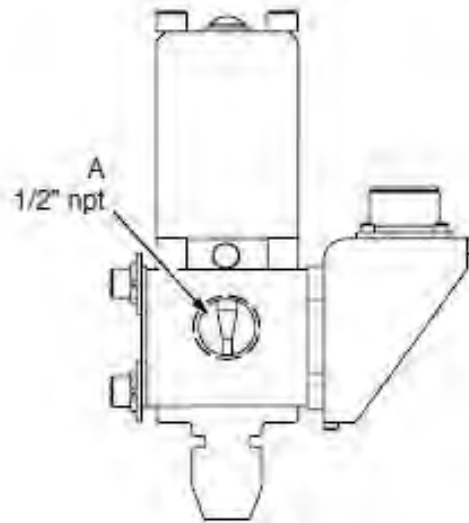

FIG. 5
Making sure to connect the appropriate air lines to the appropriate ports (see FIG. 5), securely connect air lines to dispense valve air ports (G).
Securely connect the material hose to the dispense valve material inlet port (A). See FIG. 5.
3. Verify that socket contact E on six pin models (see FIG. 5) or contact eight on eight pin models (see FIG. 7), inside control panel receptacle, is connected to true earth ground.